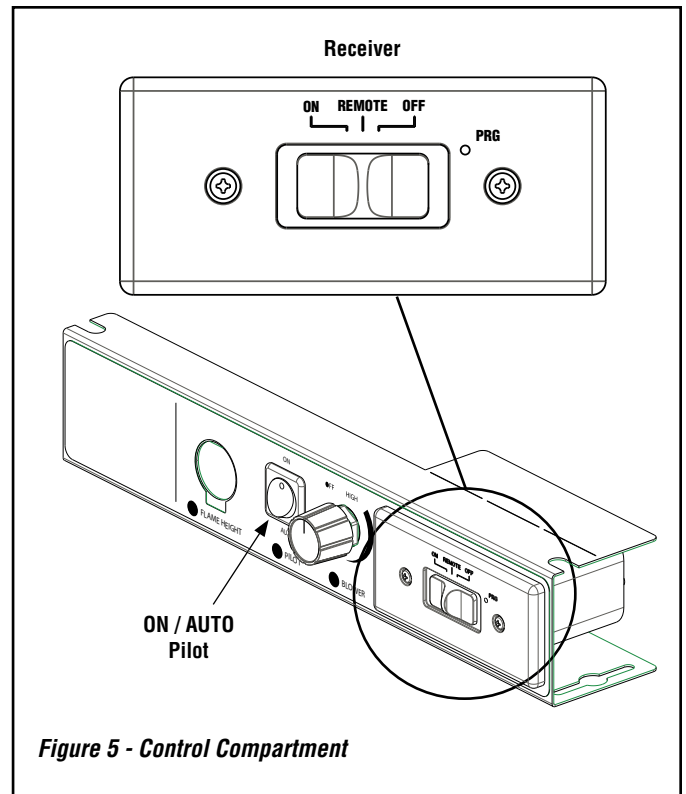

Figure 5 - Control Compartment
Place the 3 position slider switch in the "Remote" position (see **Figure 5**). Using the end of a paper clip, or other similar object, insert the end of the paper clip into the hole marked "PRG" on the Receiver front cover. The Receiver will "beep" three (3) times to indicate that it is ready to synchronize with the Remote (transmitter).
This appliance can be switched from intermittent ignition to a standing pilot simply by toggling the switch located in the lower control compartment (refer to **Figure 5**). To save energy, switch to intermittent mode. To have a standing pilot which will help startup in the winter by warming the flue and the glass, switch to standing pilot.